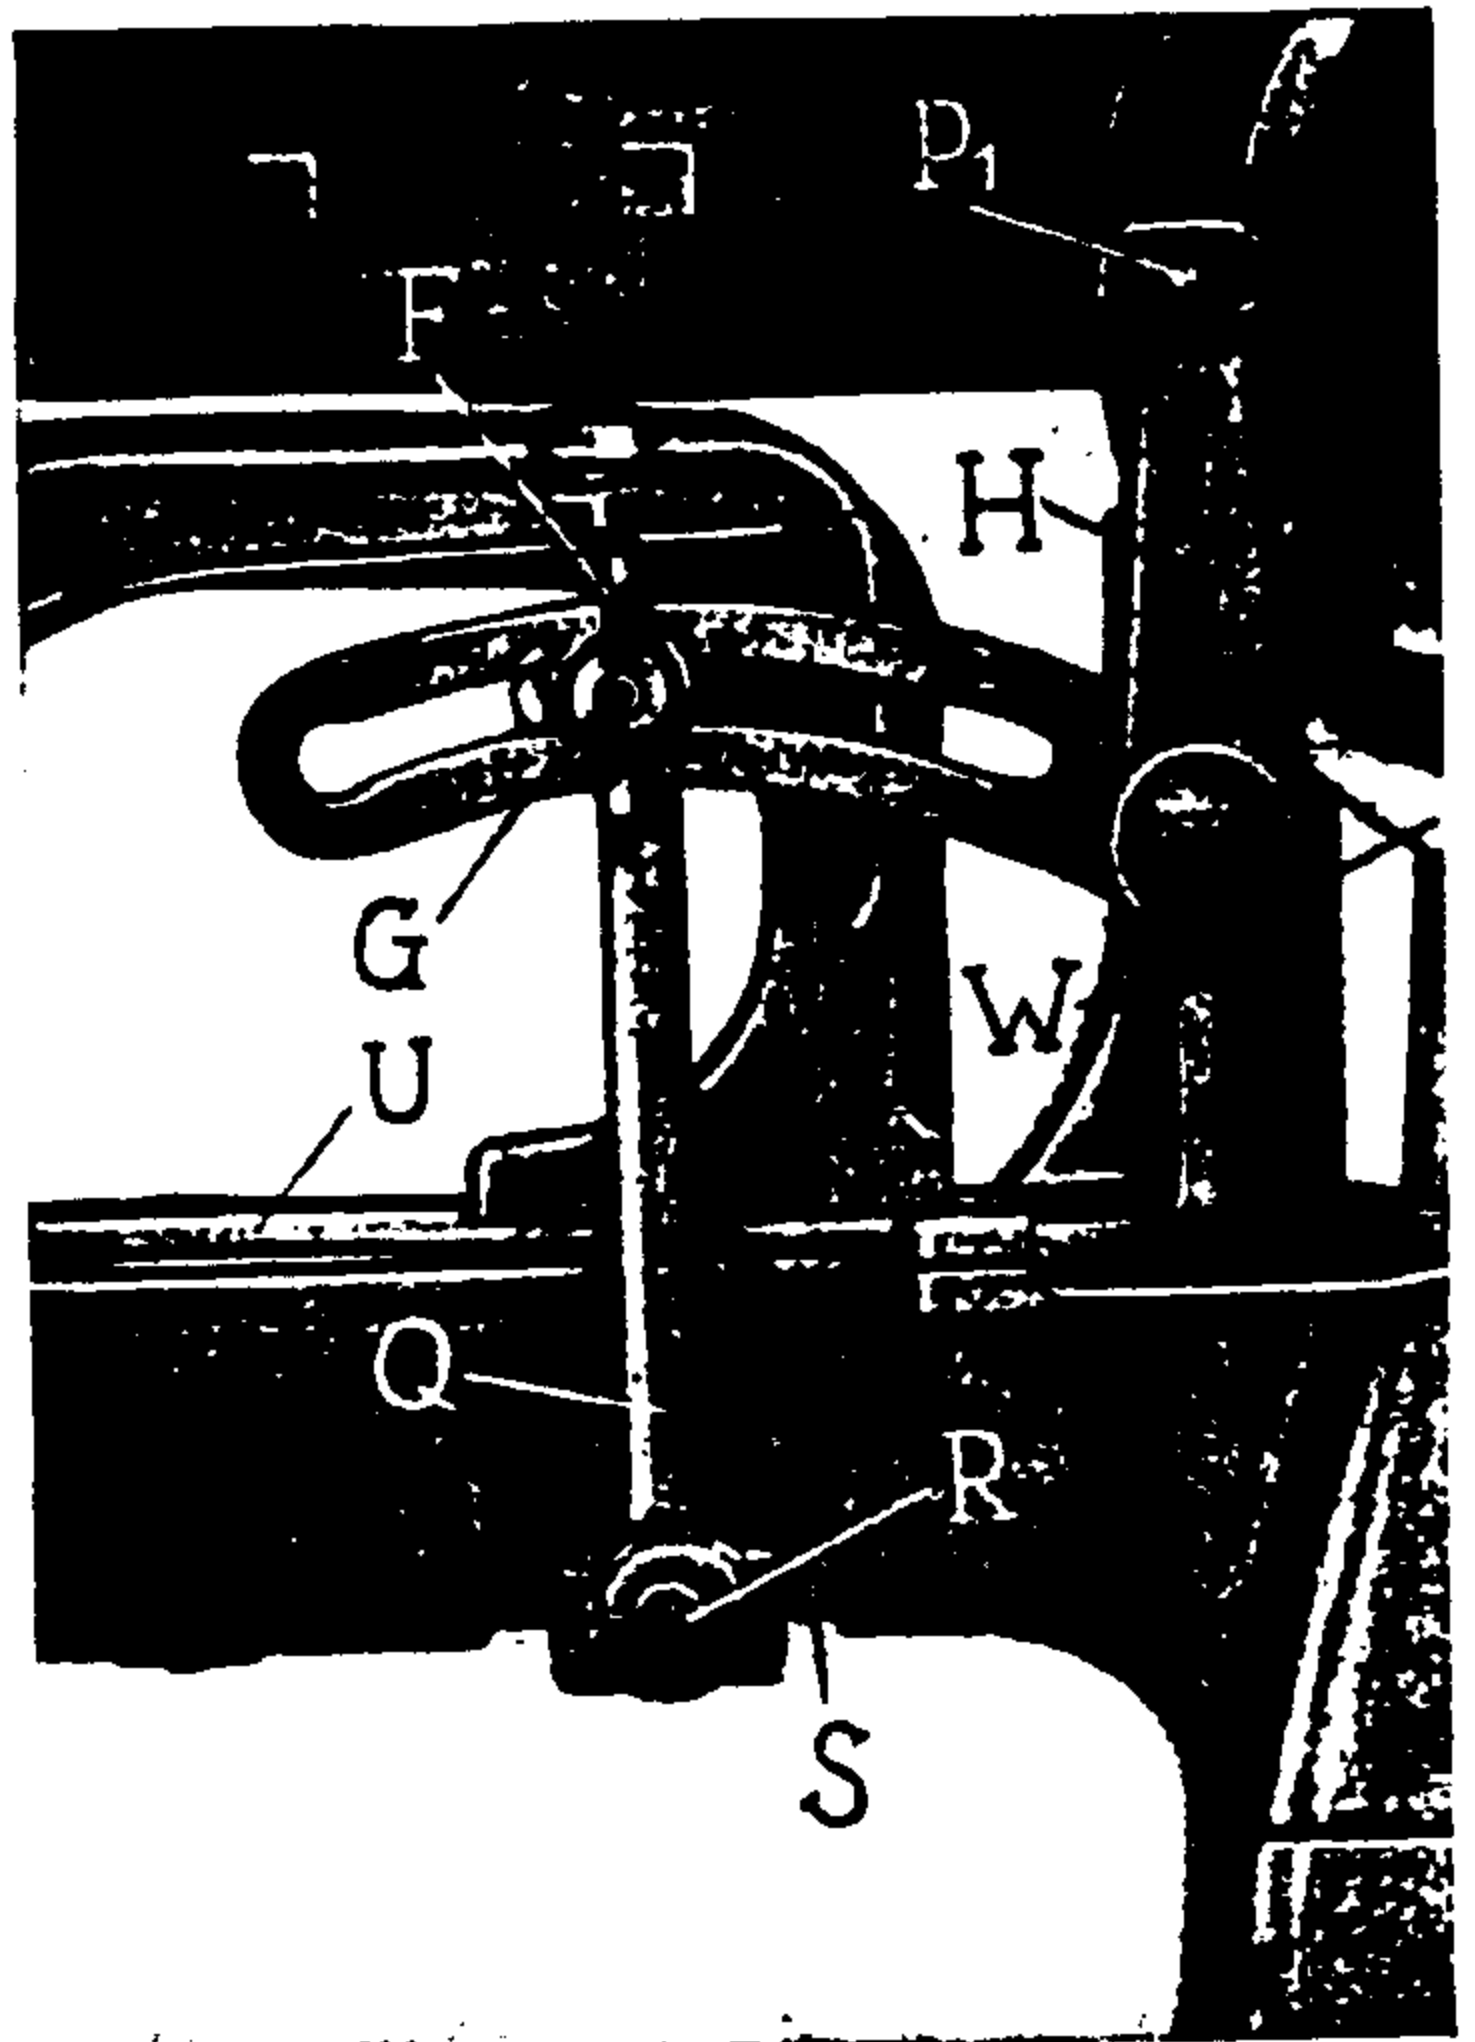
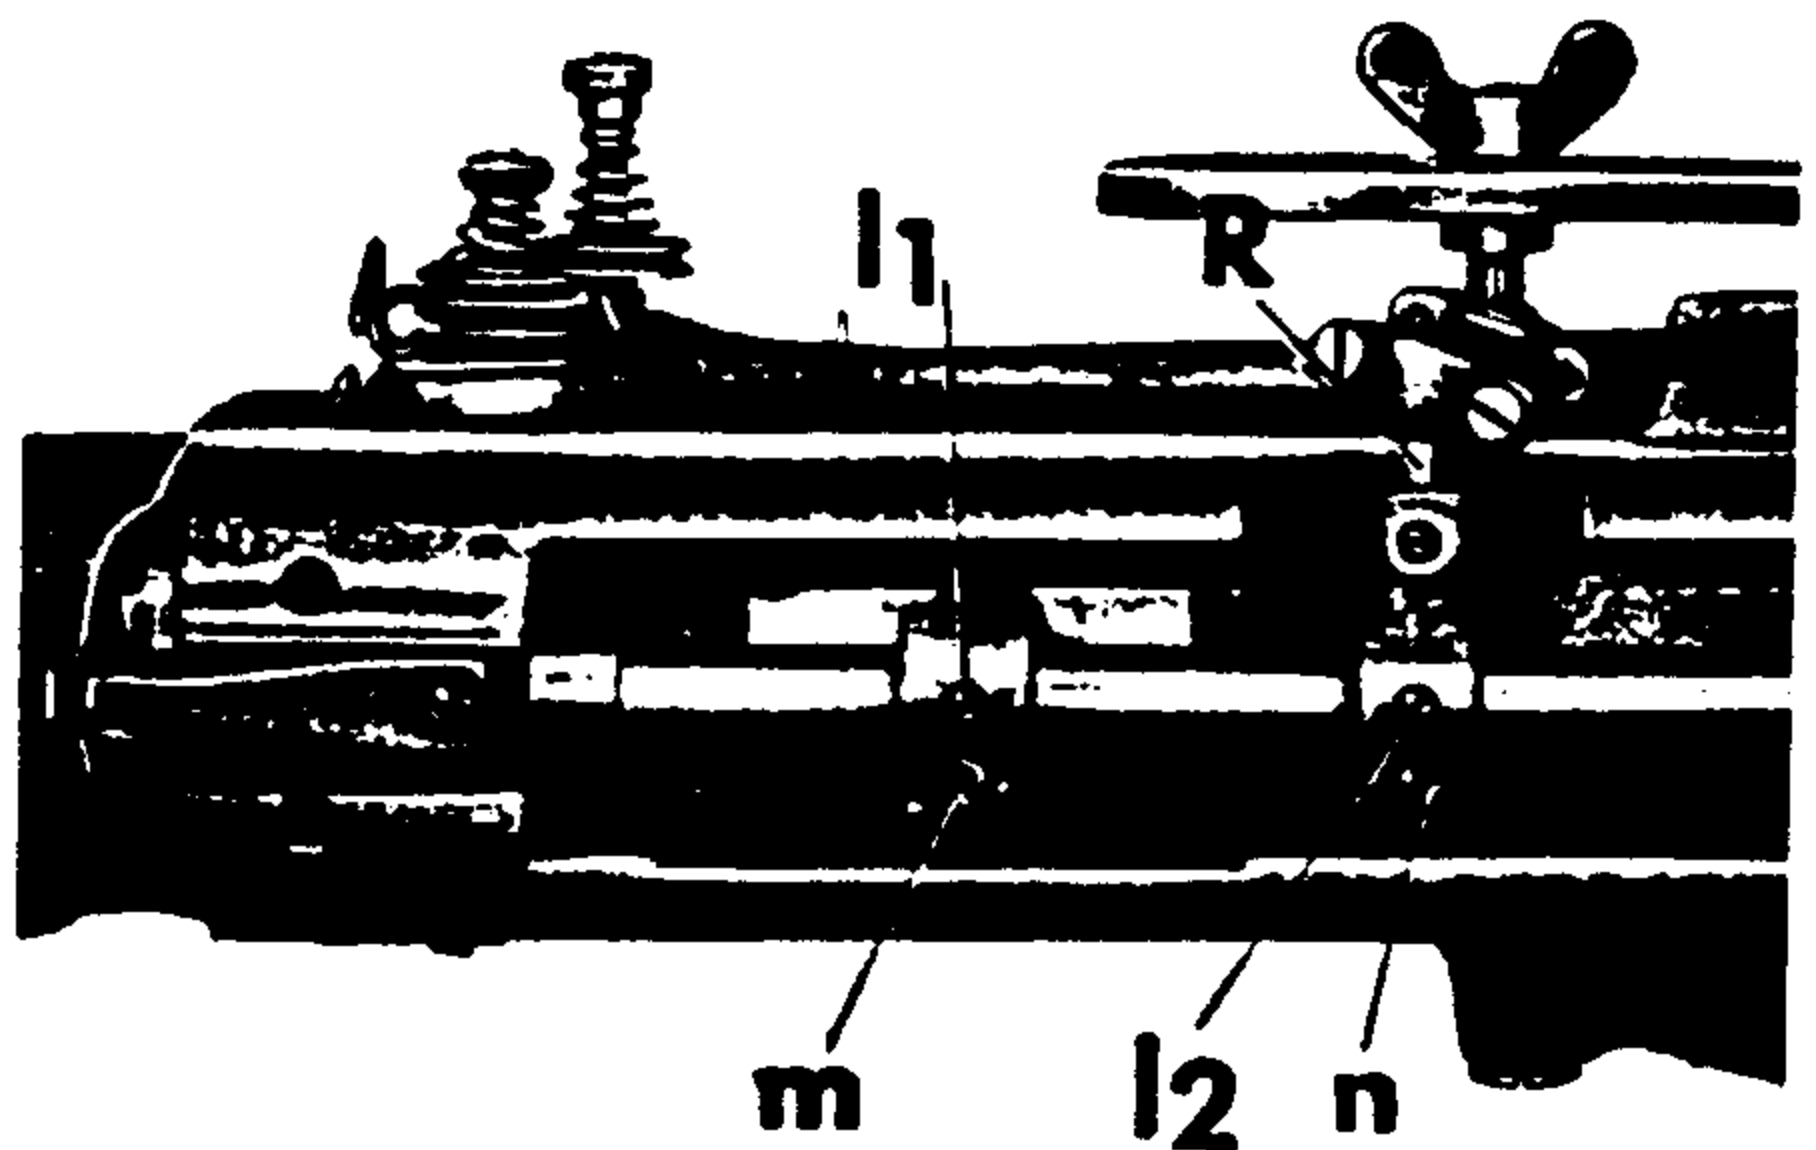

Fig. 13
Fig. 16
The amount of sideways travel of the work clamp depends on the design of the tack and varies with each subclass. To adjust the feed across motion, loosen wing nut F (Fig. 13) and move ball stud G in the slot of feed across regulator H, as follows:
The feed across motion is derived from the slot on the front of feed cam W (Fig. 13). As the roller on stud P_1 follows the channel track, the throw which is initiated by the curvature of the slot is conveyed to feed across regulator H, connection Q, ball stud R, feed across shaft S and feed plate carrier U, and causes the latter to move crosswise of the cylinder arm.
1. After the machine has completed the sewing cycle and stopped, loosen the nut on roller stud P_1 (Fig. 13) and center the stud in the elongated hole of feed across regulator H . Tighten the nut securely.
2. Move ball stud G (Fig. 13) toward you as far as it will go, setting clamp and feed plate for the longest crosswise travel.
4. Turn the driving pulley and check whether the right and left hand ends of the feed plate slot are equidistant from the needle hole when the feed plate is at the extreme right or left of its throw. If adjustment is required, loosen screw l_1 and binding screw m (Fig. 16) and set the feed plate, as appropriate. Then tighten both screws securely.
5. Move ball stud G (Fig. 13) over from you as far as it will go, setting clamp and feed plate for the shortest crosswise travel.
6. Repeat the check outlined in par. 4 above. If adjustment is required, loosen screws l_2 and n (Fig. 16) and move stud R lengthwise of the feed across shaft until the crosswise travel of the work clamp is exactly halved by the needle. To double check this setting, move ball stud G (Fig. 13) from one end of the slot in regulator H to the other and make sure the feed plate does not move sideways.